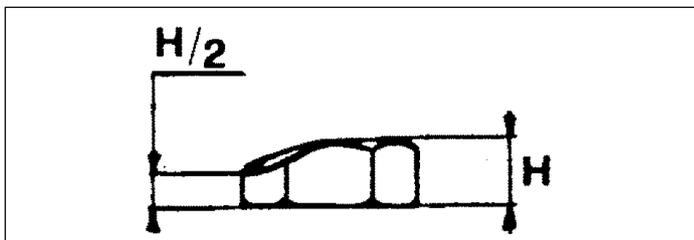

Fig. 24
- the **tightening nut** is worn: if the height of the nut is 1/2 the original height (fig.24).